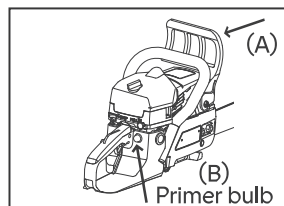

Figure 6
Move the front hand guard fully rearward (A) (towards the front handle) to unlock chain brake, listen for audible click as sign chain brake is unlocked. Press the primer bulb (B) 10 times, until the fuel begins to fill the bulb. The primer bulb does not need to be completely filled (Figure 6).